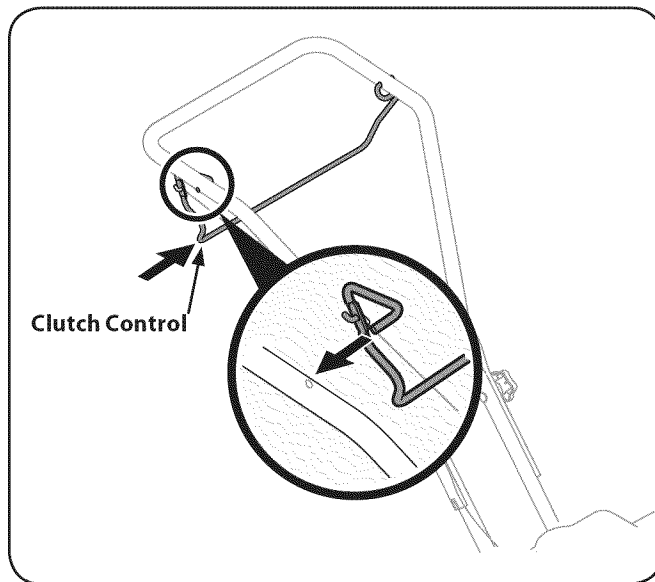

Figure 3-5
6. Squeeze the tine clutch control inward. Insert the right end into the hole on the right side of the upper handle. See Fig. 3-5.